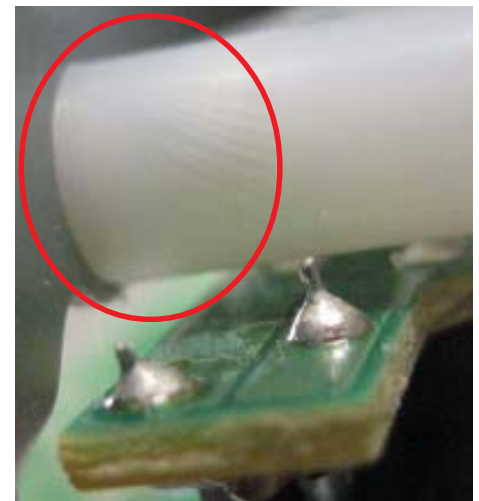

FIGURE 4: CORRECT
- Step 8: Re-seat the white plastic guide so it sits flush against the Chassis. The tip of the white plastic guide should sit slightly inside the mounting screw hole. When seated correctly, the gap will no longer be present as shown in Figure 4.